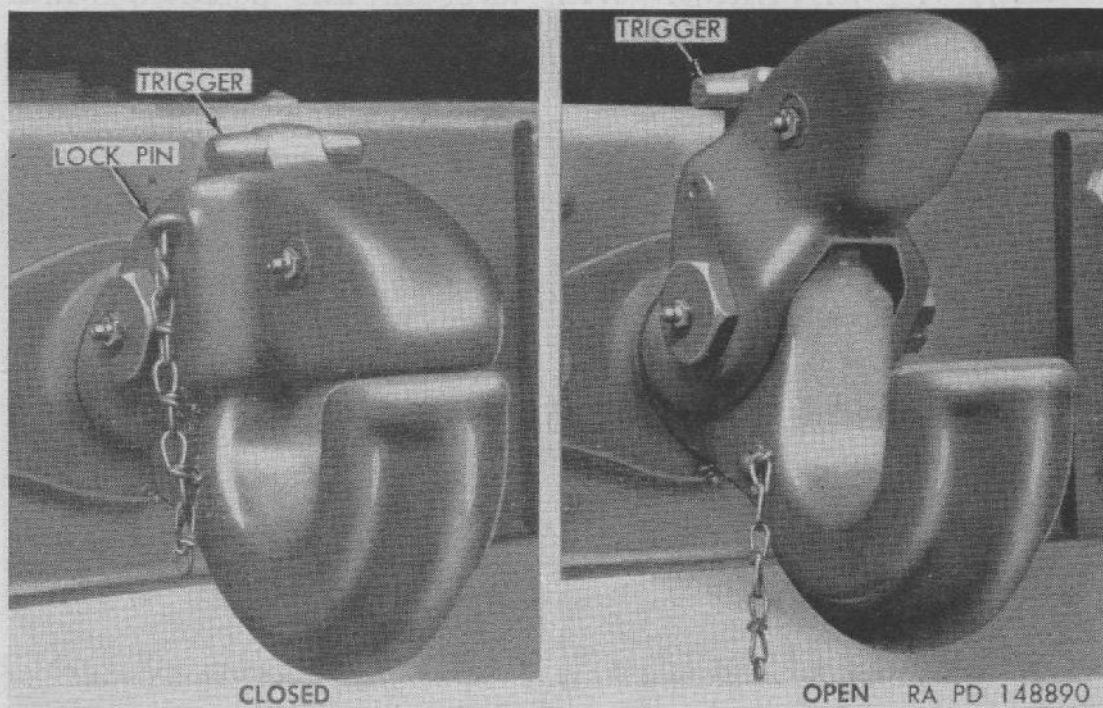

Figure 16. Pintle operating positions.
- (5) If engine fails to start within a reasonably short distance, determine cause and correct.
c. USE OF PINTLE (fig. 16). To open pintle, pull lock pin from upper half of pintle. Pull trigger handle rearward and at same time, pull up on upper half of pintle. To close, push upper half down against pintle hook. Latch will automatically engage. Insert chained cotter pin in hole in latch.